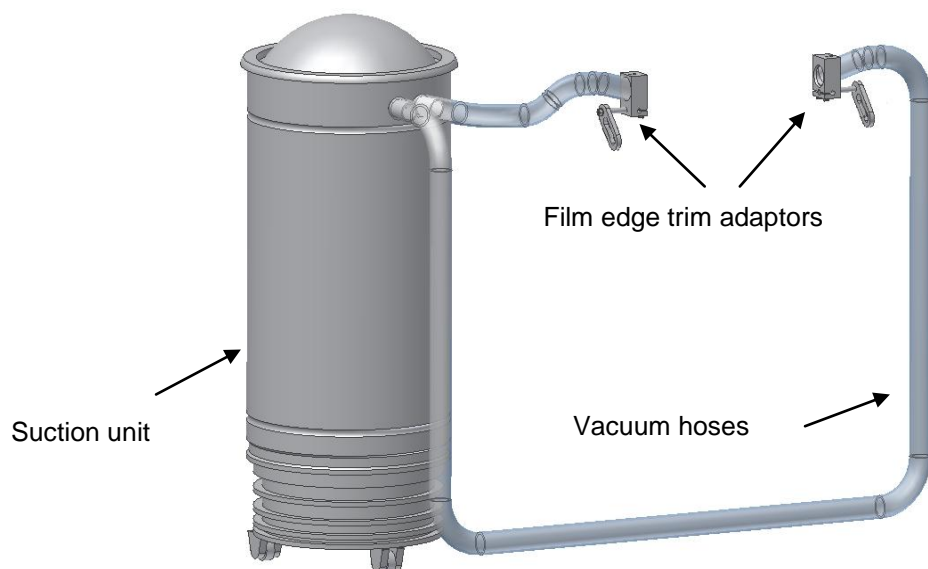

Figure 3.33 Film suction unit with hoses
- Film edge trim suction unit (see Figure 3.33).